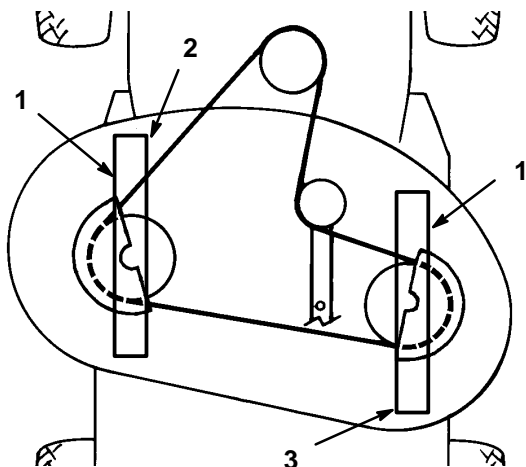

Figure 13
4. Carefully rotate blades so they are facing front and rear (Fig. 13).
5. Measure between the tip of the front blade (Fig. 13). and the tip of the rear blade to the flat surface. If the front blade tip is not 0–1/8" (0–3.2 mm) lower than the rear blade tip adjust front adjustment link.